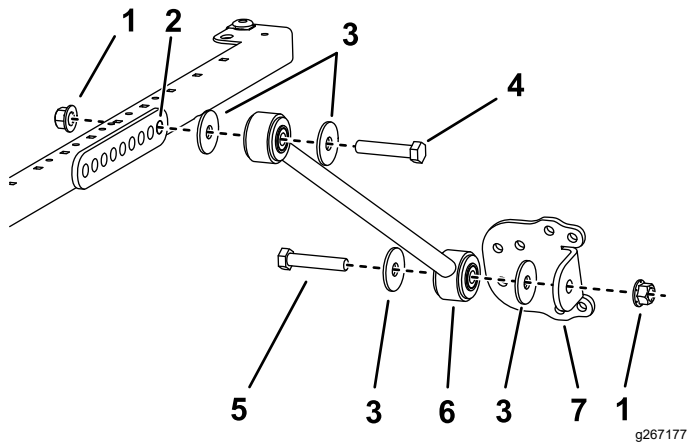

Figure 33
- For Models 03820, 03821, 30604, 30605, 30608, and 30609 on each side of the sunshade frame, loosely mount a brace to the **rear** hole of the brace bracket with a bolt (1/2 x 2-1/2 inches), washer (1/2 inch) washer, and flange nut (1/2 inch) as shown in Figure 33.
- Loosely install a brace bracket to each brace with a bolt (1/2 x 2-1/2 inches), washer (1/2 inch), and flange nut (1/2 inch) as shown in Figure 33.